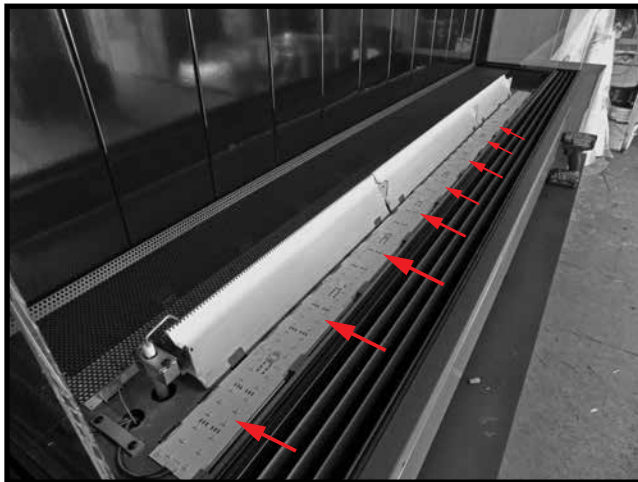
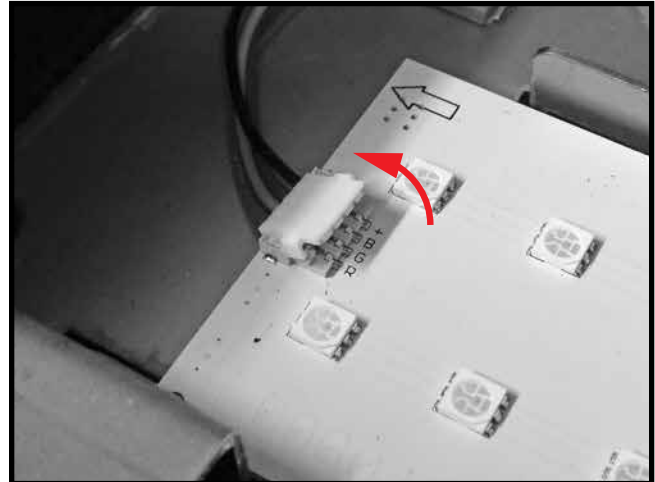

Figure 58: LED individual sections joined together.
Figure 59: LED connector.
There are two rows of LED lights in this fire feature, one row on each side of the burner. Each row of LED lights is made of individual LED sections which can be joined together using bridge connectors to achieve the desired row length (Figure 58). Each row of sections also has its own main electrical connector (Figure 59).
9. Reconnect the main electrical connector as shown in (Figure 59).